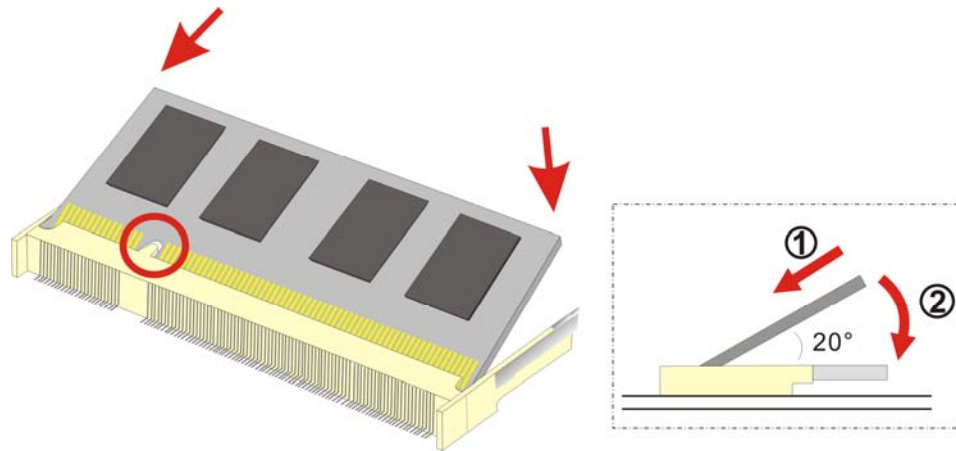

Figure 5-6: SODIMM Installation
To install a SODIMM into a SODIMM socket, please follow the steps below and refer **Figure 5-6**.
- Step 3:** Insert the SODIMM. Push the SODIMM chip into the socket at an angle. (See Figure 5-6)
- Step 4:** Open the SODIMM socket arms. Gently pull the arms of the SODIMM socket out and push the rear of the SODIMM down. (See Figure 5-6)